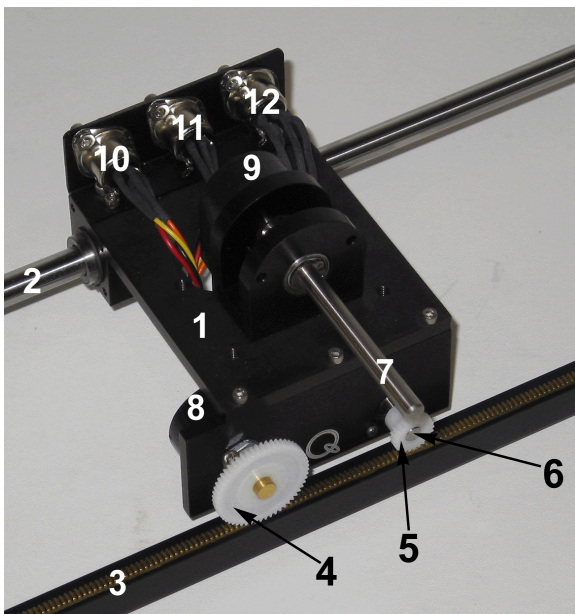
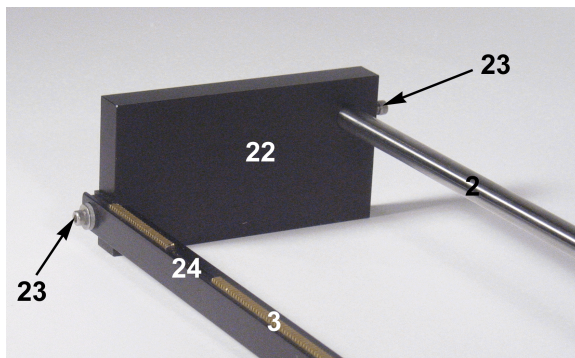
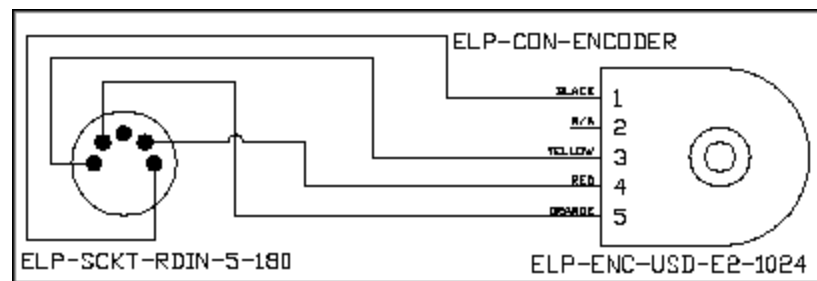

Figure 3 IP02: Front View
Figure 7 Rack Left End
Figure 10 IP02 Encoder Wiring
As a quick nomenclature, Table 5, below, provides a list of all the principal elements composing the IP01 and IP02 systems. Every element is located and identified, through a unique identification (ID) number, on the IP01 and/or IP02 systems represented in Figures 3, 4, 5, and 6, below, as well as Figures 7 and 8.
Moreover as illustrated in Figures 7 and 8 below, parts of the track are missing (feature or "component" #24) at both ends of the IP01 or IP02 rack. This feature plays the role of a hardware safety watchdog in preventing the IP01 or IP02 cart from running into one of the track's ends, which could potentially be damaging.
The supplied motor cable is designed to connect from a Quanser Universal Power Module to a 4-pin DIN connector, shown as component # 12 in Figures 3, 4, and 6, on page 7.
On the IP02, both cart and pendulum positions are measured with two optical encoders, represented in Figure 3 by components # 8 and 9, respectively. Having an encoder (as opposed to a
The position signal generated by the encoder should be directly connected to a Quanser terminal board (a.k.a. I/O card) using a standard 5-pin DIN cable. **DO NOT connect the encoder signal to the UPM.** The internal wiring diagram of the IP02 encoder is depicted in Figure 10. The standard 5-pin DIN connector, shown in Figure 10, is also pictured as component # 10 or 11 in Figure 3.